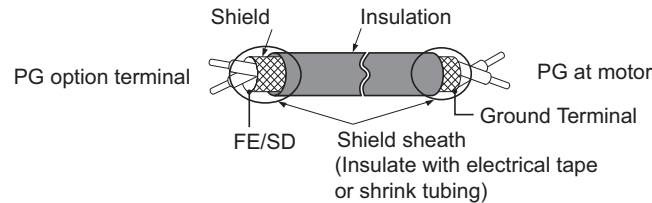
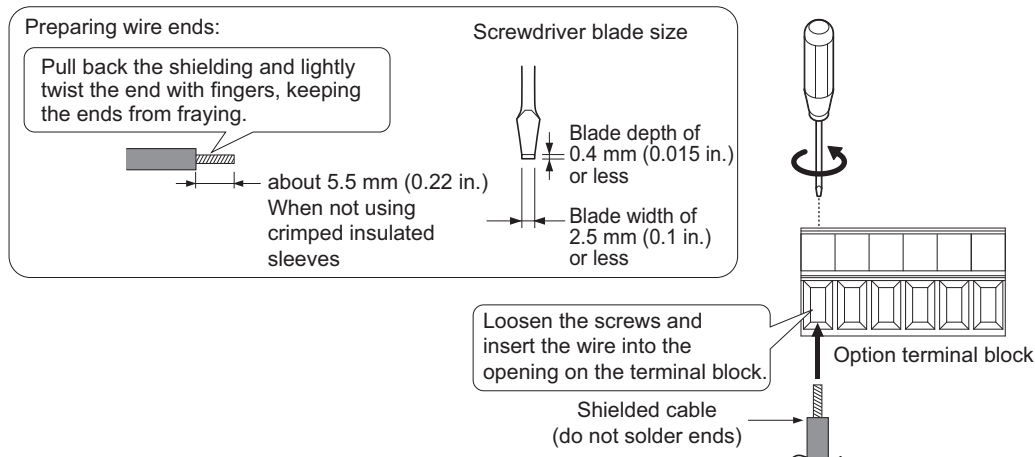

Figure 8.6 Preparing Ends of Shielded Cable
Figure 8.7 Preparing and Connecting Cable Wiring
2. There are two screw holes on the drive for use as ground terminals (I). When connecting three options, two ground wires will need to share the same drive ground terminal.
4. Prepare and connect the wire ends as shown in **Figure 8.6** and **Figure 8.7**. **Wire Gauges and Tightening Torques on page 371** to confirm that the proper tightening torque is applied to each terminal. Take particular precaution to ensure that each wire is properly connected and wire insulation is not accidentally pinched into electrical terminals.